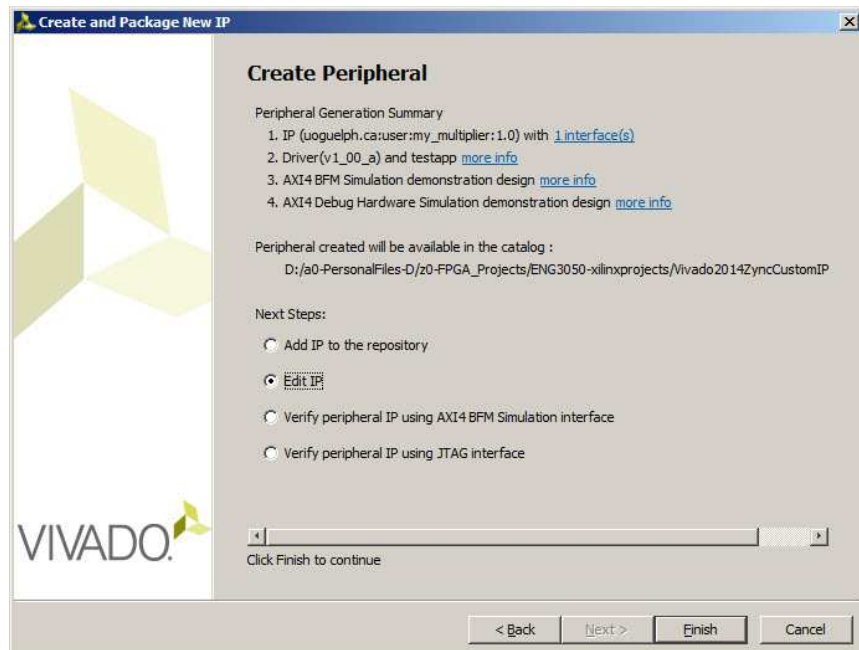

Figure 17: Create & Edit IP
- On the next screen we can configure the AXI bus interface. For the multiplier we will use AXI lite, and it will be a slave to the PS, so we will stick to the default values shown on **Figure 17**.